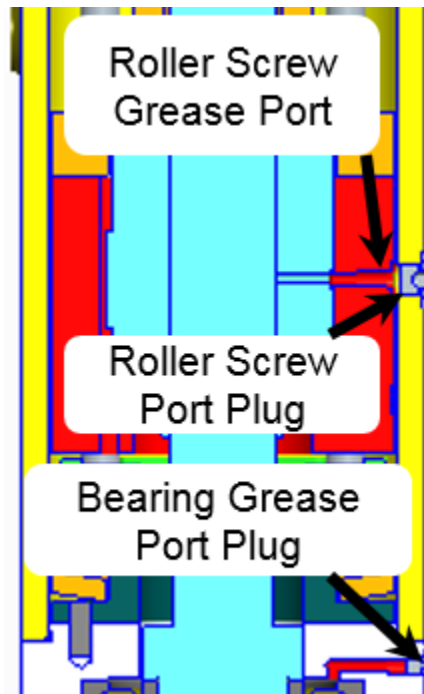

Figure 2-1. Ball Screw Assembly Lubrication
2. Command the actuator to the 100% position (fully retracted) so that the roller screw port plug will align with the roller screw grease port per Figure 2-1.
3. Remove the roller screw port plug with a 1/4 inch hex wrench (Figure 2-1).
7. Remove the grease syringe from the roller screw grease port and install the roller screw port plug and torque the port plug to 7.9-9.0 N·m / 70-80 lb.-in (Figure 2-1).